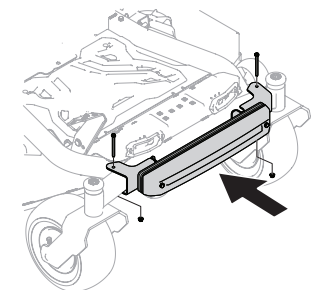

Figure 31
3. Visually center the weight bar assembly on the tractor and using two 7/16-inch hex head capscrews (710-3056) and two nuts (712-04063) secure the counter weight assembly to the tractor as shown in Figure 31.